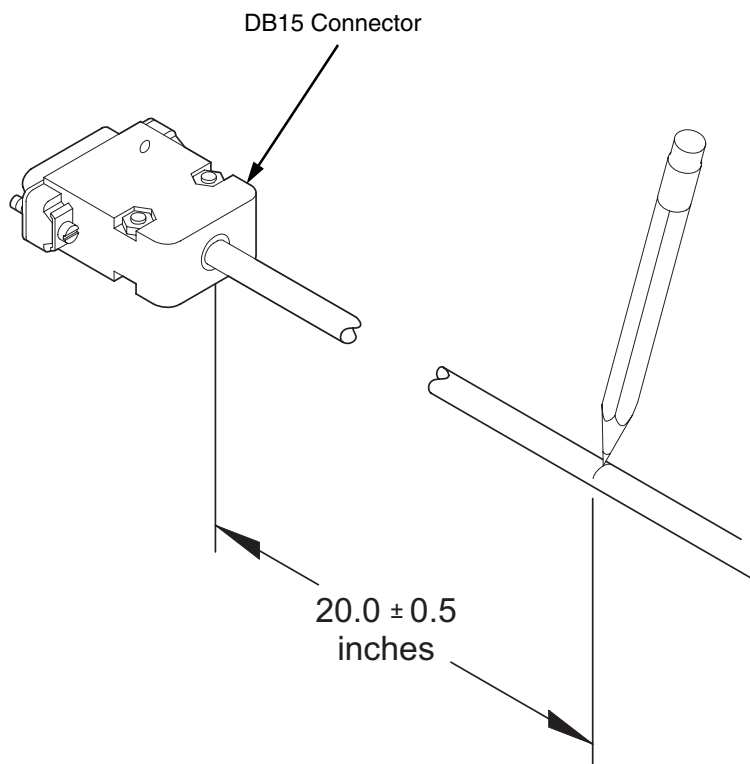

Figure 3. Locating the Ferrite Position on the Power/Data Cable
4. Measure back 20.0 ± 0.5 inches from the DB15 connector and mark the cable with a pencil line. (Figure 3.)